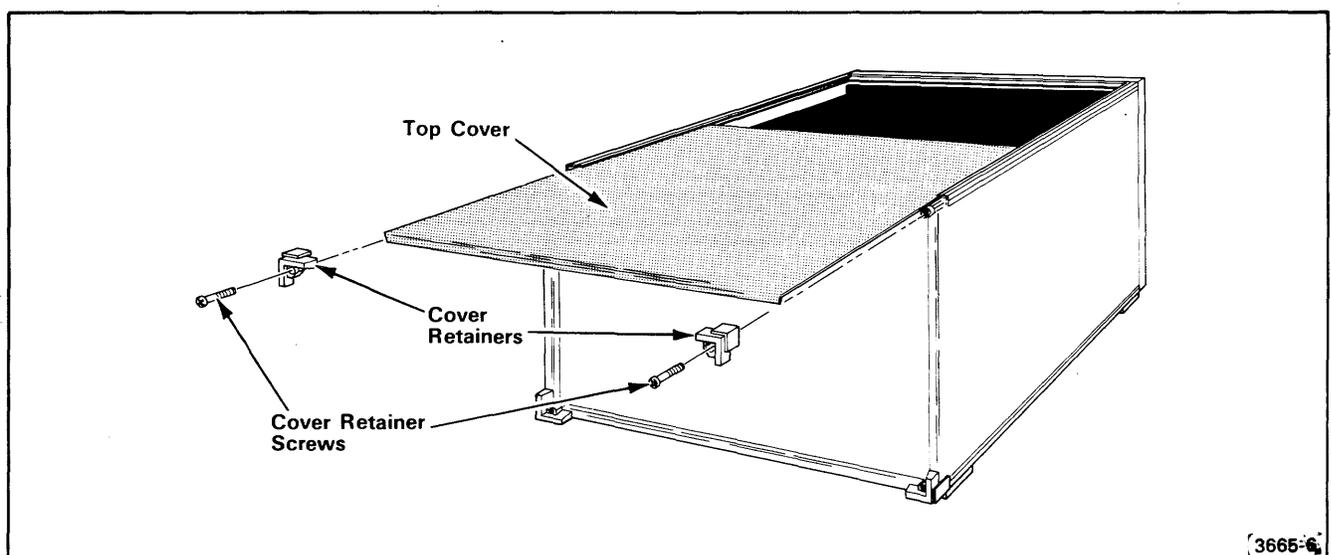

Fig. 3-1. Removal/installation of top cover.
2. Remove the cover retainers at the upper corners on the rear of the mainframe (Fig. 3-1).
8. Install the cover retainers (removed in step 2) at the upper corners on the rear of the mainframe (Fig. 3-1). Tighten the cover retainer screws securely.
19. Install the cover retainers at the upper corners on the rear of the mainframe (Fig. 3-1). Tighten the cover retainer screws securely.